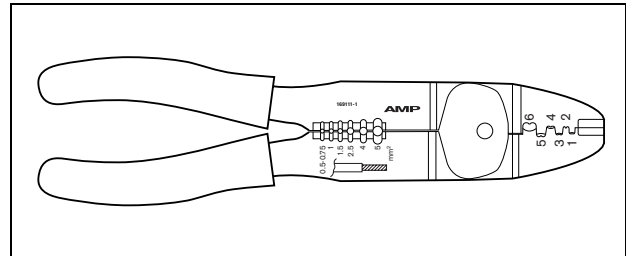

figure 15.12: Tyco AMP 169111-1 pliers
- Tyco AMP 169111-1 pliers (see figure 15.12)